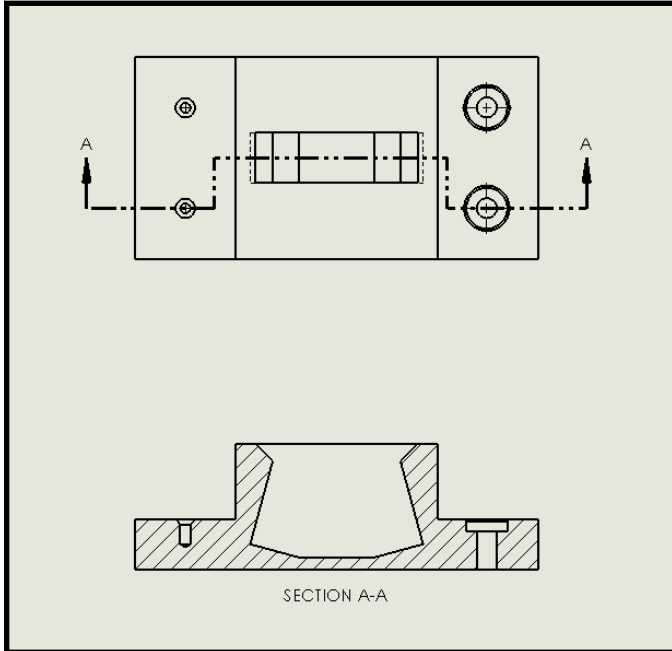

Figure 9.14 - Strawberry Section View
3. When would you use a full section versus using a half section view of an object? Remember, a half section removes one quarter of the object and a full section removes half of the object as demonstrated with the strawberries in figure 9.14.